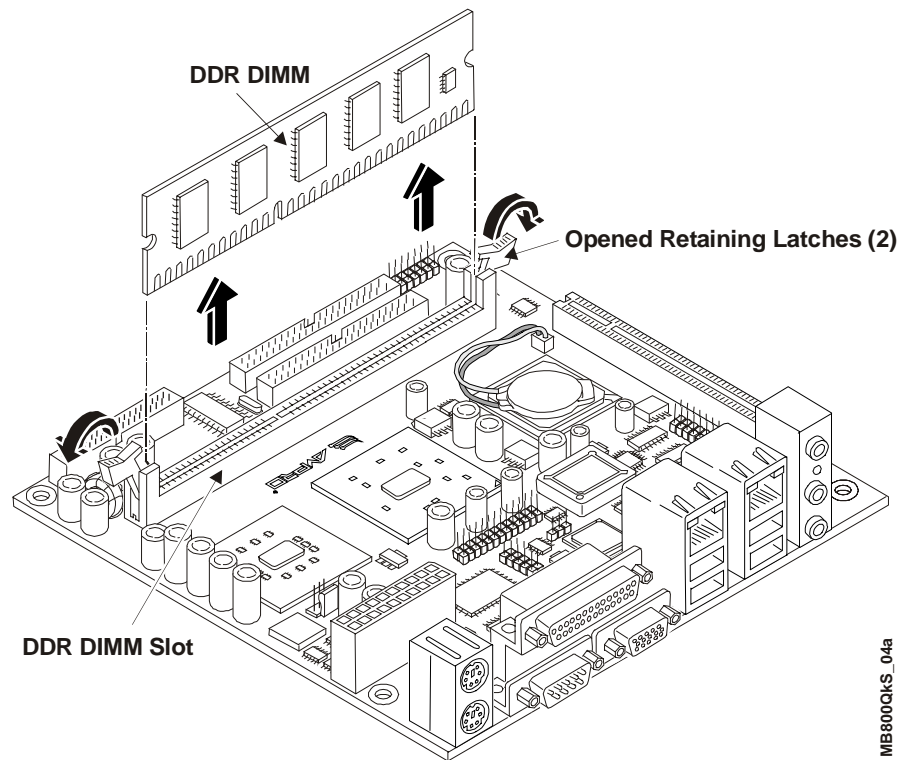

Figure 2-2. Removing DDR DIMM from Slot
5. Open both retaining latches to release the DDR DIMM from the slot. See Figure 2-2.
6. Using the card edges, lift the DDR DIMM completely away from the slot. See Figure 2-2.